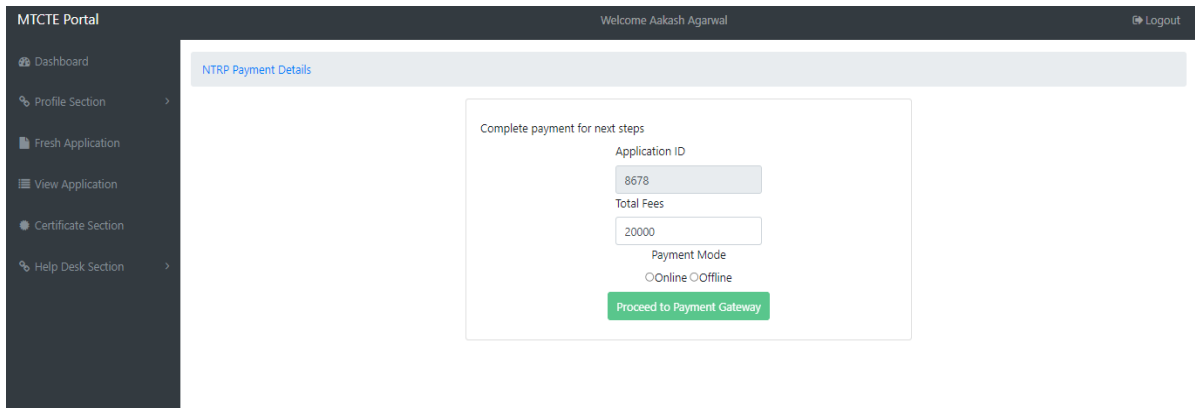

Fig. 43: Proceed to Payment Gateway
- g. Applicant will be able to see the newly generated Application ID. Choose the payment mode (Online/Offline) and then click on **Proceed to Payment Gateway** (Fig. 43). It will be redirected to NTRP portal for the applicable payment of application fees.